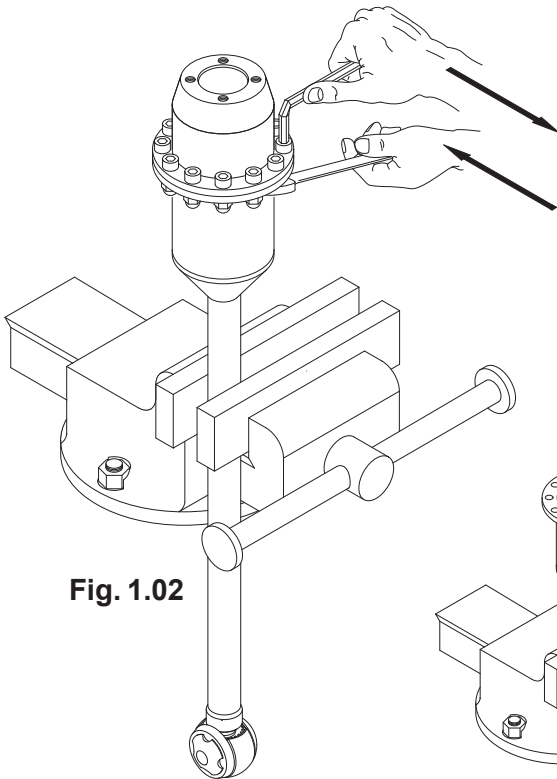

Fig. 1.02
- 1.2.02) Use a 5-mm allen wrench and 10-mm ring spanner to loosen the twelve screws and the twelve nuts pos. 57 and pos. 58, see fig. 1.02.